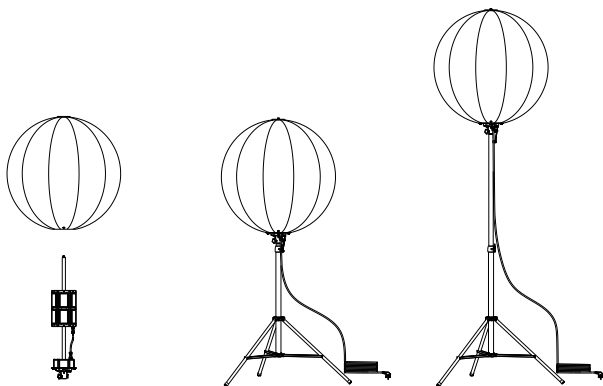

Fig.1 Product Overview
- 1.Place the tripod on flat ground and make sure the legs are stable before mounting. Pull out the chain pin of the light base, loosen the bolt, align the hole of the tripod column, insert the chain pin fully, then tighten the knob to fix the base. (See Fig.1)